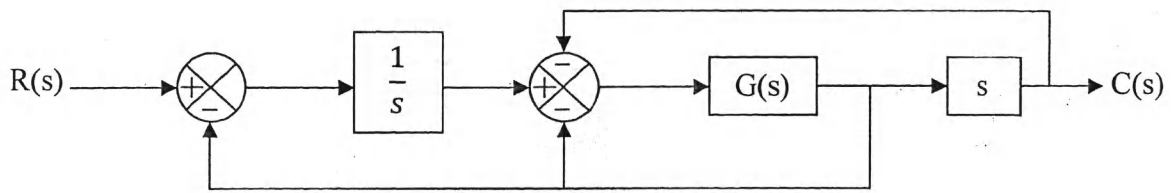

Fig. 5
15. The block diagram of a system is shown in Fig. 5. If the desired transfer function is $\frac{C(s)}{R(s)} = \frac{s}{s^2+s+2}$, then $G(s)$ is